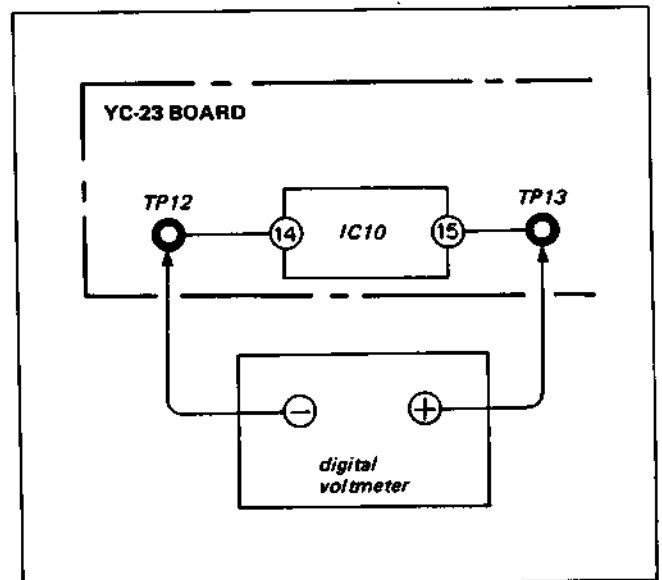

Fig. 4-23. Measurement points
- (1) Do not supply the VTR with any signal and set up the E-E mode.
- (2) Connect the digital voltmeter to the points shown in Fig. 4-23.
- (3) Adjust RV10 for  $0.448 \pm 0.01 \text{ V dc}$ .